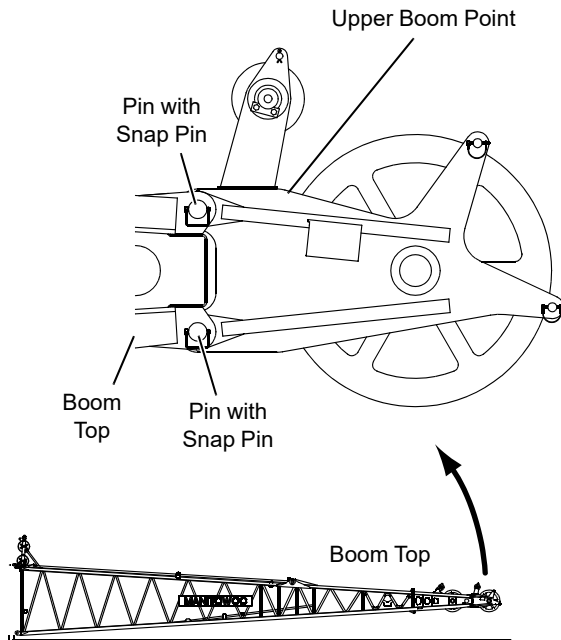

FIGURE 4-41
See Figure 4-41 for the following procedure.
6. Remove upper boom point (Figure 4-41).